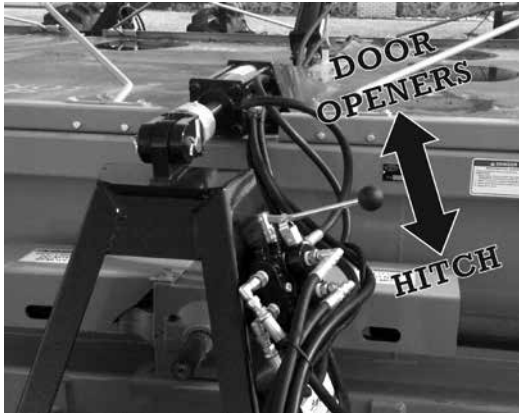

Figure 20a. Valve Control
1. On selector valve, located on hitch, move lever to the upper position. (Figure 20a)